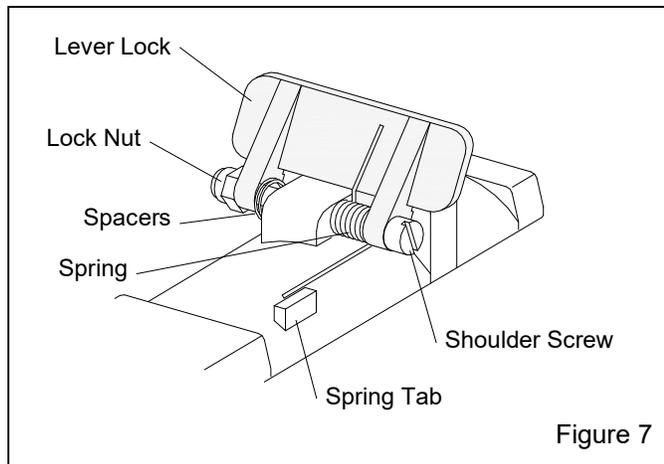

Figure 7
4.4 Lever Lock Replacement – Figure 7
4.4.1 Remove the lock nut from the shoulder screw. Before removing the screw, note the positions of the spacers and spring, as shown in Figure 7. The bent end of the spring is toward the inside, forcing the lever lock up. The straight end is toward the outside, facing down and against the spring tab.